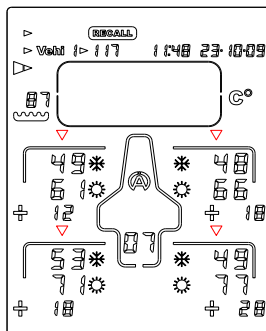

Figure 12
- 6) Press again the button  or  : the Tyrecontrol displays the third phase of data, that is to say the temperatures in the center of the tires, before  and after  race + the gaps (*figure 12*).